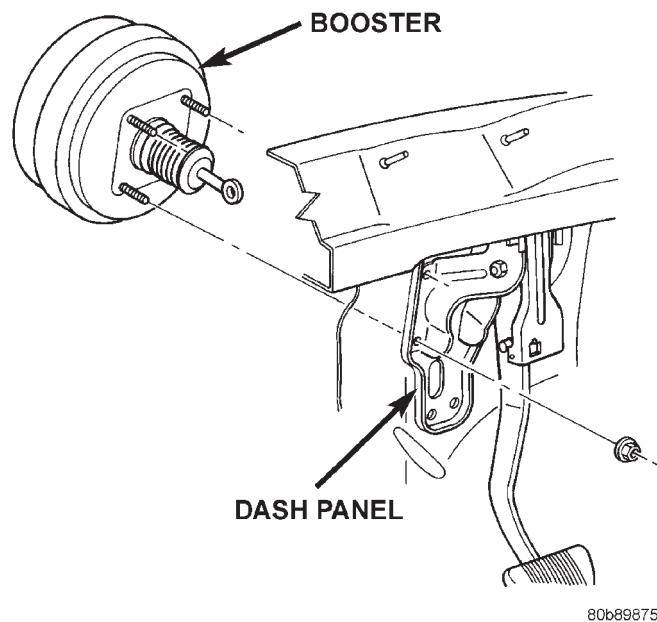

Fig. 22 Power Brake Booster Mounting
- (4) Remove four nuts (Fig. 22) that attach booster to dash panel.
- (5) In engine compartment, slide booster forward, tilt it upward slightly, and remove it from engine compartment.